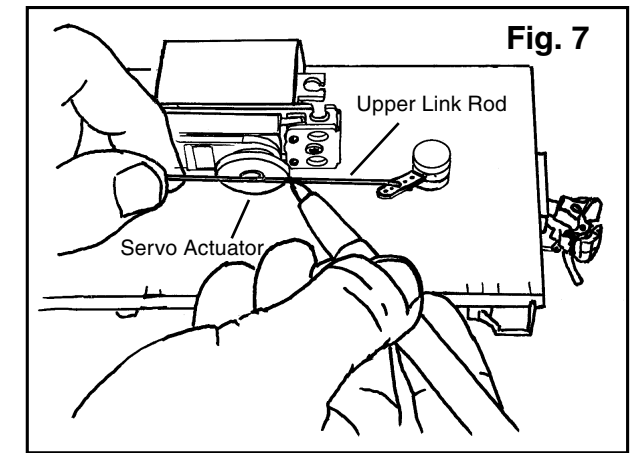

Fig. 7
**9)** Pull upper link rod until coupler is completely open. Mark and cut upper link rod at servo actuator. see **Fig. 7**